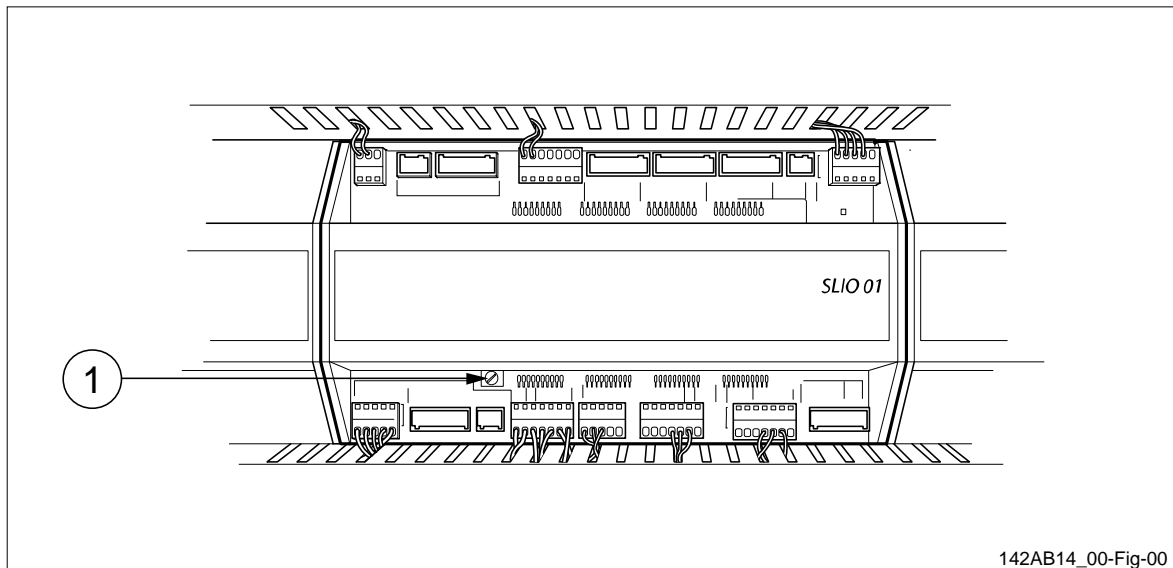

Figure 7 SLIO 01 PC-board.
2. Take note of the SLIO 01 address switch position. See figure 7.